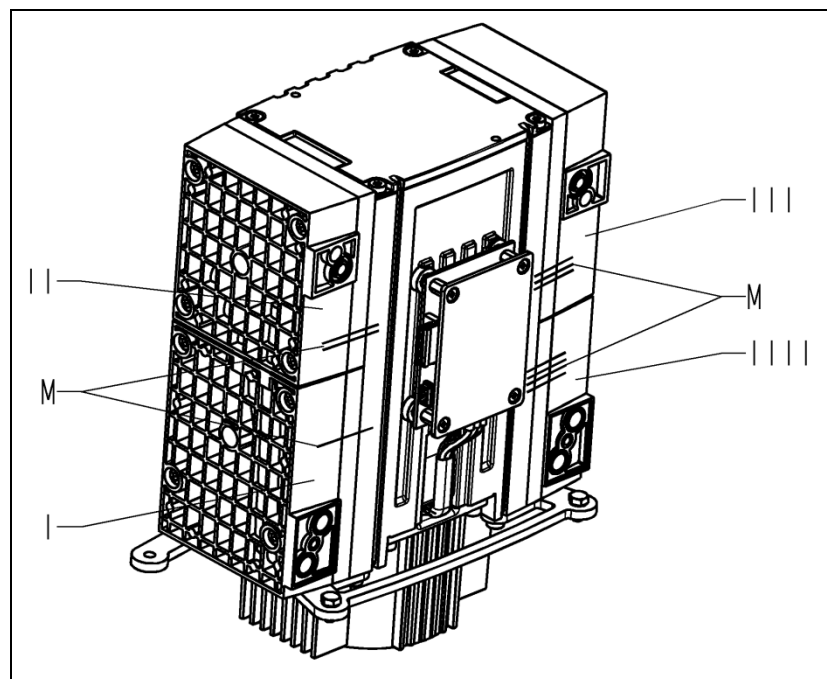
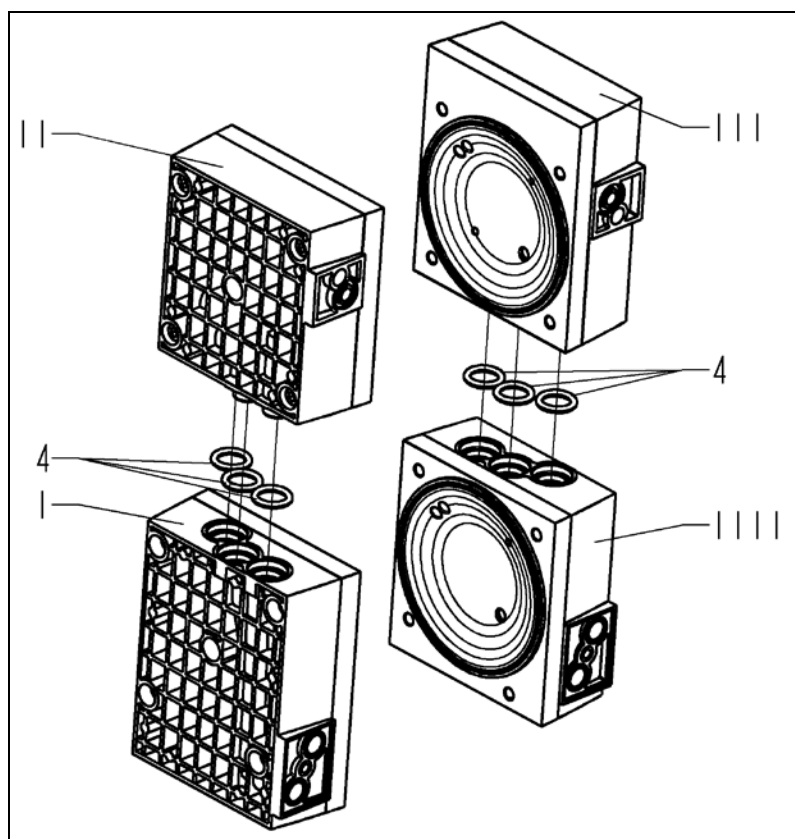
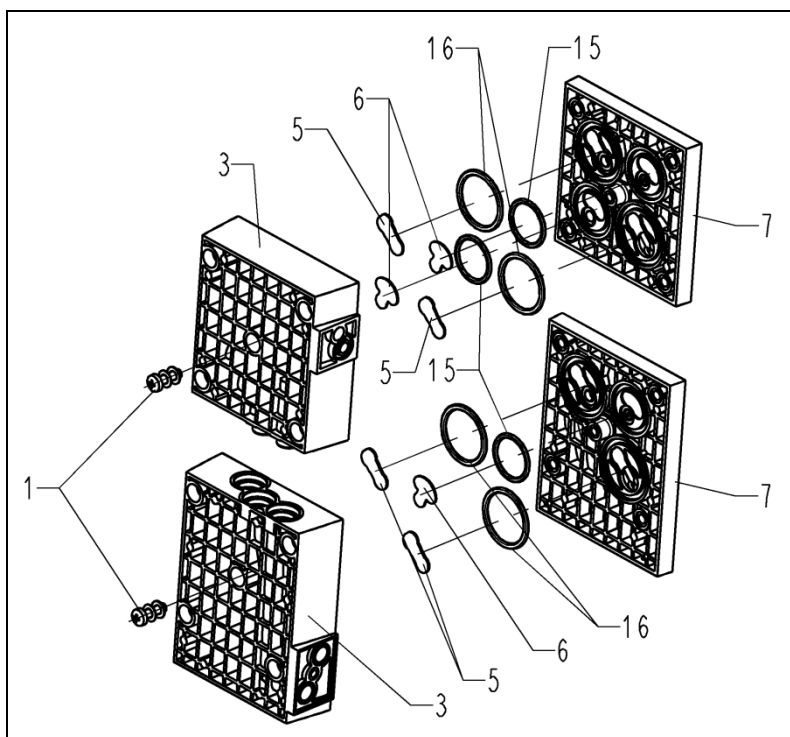

Fig. 21: Marking the pump
Fig. 22: Removing the O-rings
Fig. 23: Exploded drawing of pump heads 1 and 2
3. Head 1 (Fig. 21/I):
4. Head 2 (Fig. 21/II):
5. Head 3 (Fig. 21/III):
6. Head 4 (Fig. 21/IIII):
8. Pull apart heads 1 (Fig. 22/I) and 2 (II) and heads 3 (III) and 4 (IIII) and remove O-rings (4).
9. On all four heads, undo the head screw (Fig. 23/1) in the head plate (3) and remove head plate from the intermediate plate (7).
2. Remove from the intermediate plates (Fig. 23/7) the valve plates (5) and (6) and the O-rings (15) and (16).
4. Insert the new valve plates (Fig. 23/5) and (6) and the new O-rings (15) and (16) into the intermediate plates (7).
- i** Place the black O-rings (15) and (16) into the intermediate plate of head 4 (see Fig. 22).
5. Place head plates (Fig. 23/3) onto the intermediate plates (7), observing the pencil marks (Fig. 21/M).
6. With your hands, carefully and lightly tighten the head plate's head screw (Fig. 23/1) on all four heads (torque: 60 Ncm).
1. Place three O-rings (Fig. 22/4) into each of the head connection holes.
- i** Place the three black O-rings (4) into the head connection holes between heads 3 and 4.
2. Press together heads 1 and 2 (Fig. 21/I and II) and heads 3 and 4 (III and IIII).